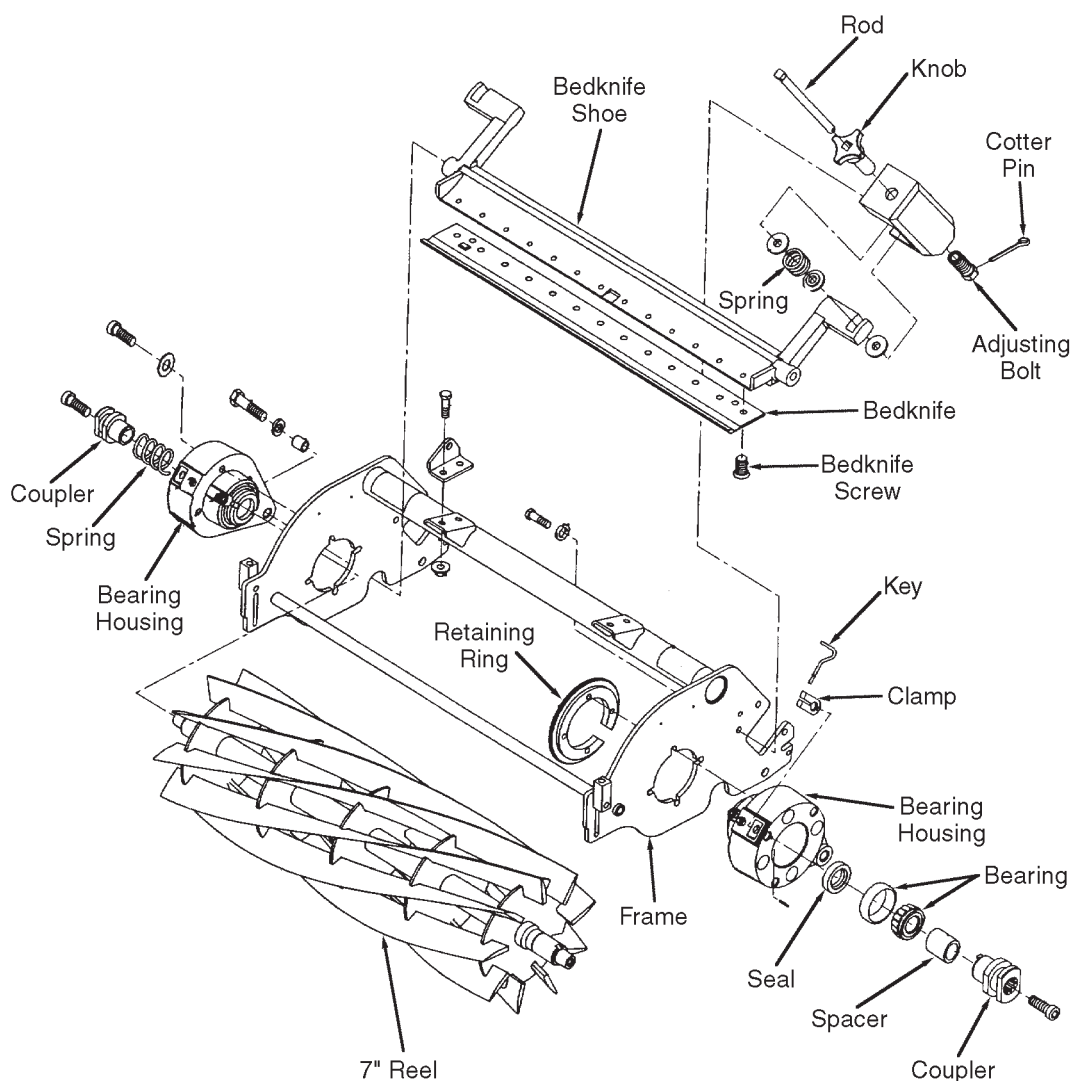

Figure 12G-4. Mower Unit Disassembly (Sheet 2 of 2)
10. Remove remaining components as shown in Figure 12G-4, Sheets 1 and 2).
1. Refer to Figure 12G-5. On both ends of the reel, position the retainer rings with the raised centers facing away from the reel.